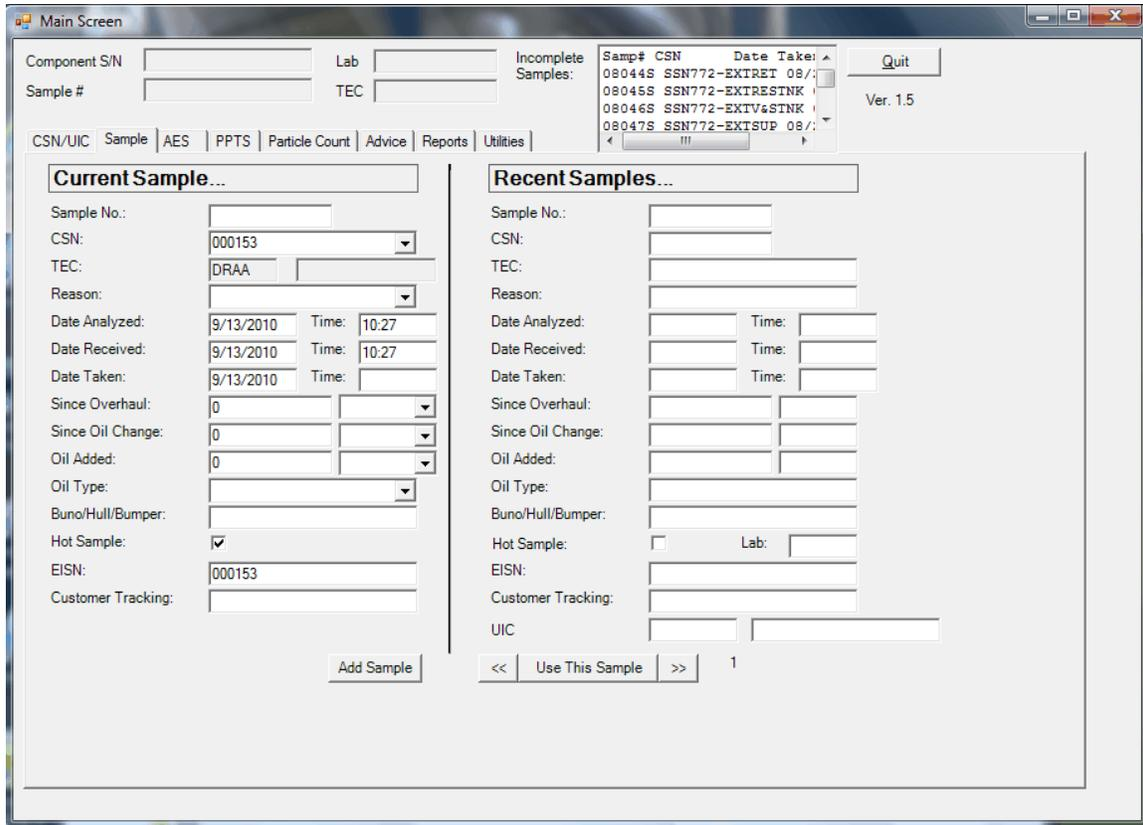

Figure 8. Main Screen
- a. Sample Receipt. Oil samples are received by the NOAP Lab for testing. The samples will arrive with a DD 2026 Form. This form will provide the lab operator with the necessary information pertaining to the sample. If the DD 2026 Form is not clearly filled out, or if it appears to have missing data, contact the originator of the sample or the personnel responsible for the sample, and request clarification of missing information. A lab may also request a new DD 2026 be submitted for an existing sample. In order to test oil samples, the lab operator is provided with a series of screens in LARA which assist in identifying the sample, characteristics of the sample, and ultimately reporting results. After logging into LARA you will see the following screen (Figure 8).